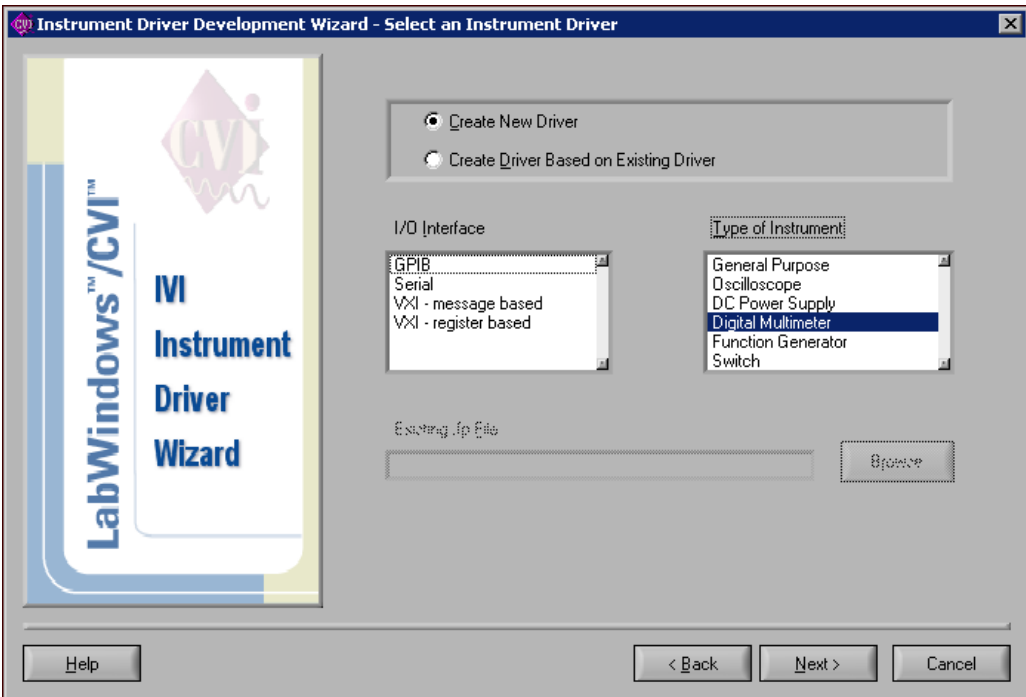

Figure 5-1. Select an Instrument Driver Panel
2. Click **Next** on the Welcome panel to begin. The Select an Instrument Driver panel appears, as shown in Figure 5-1.